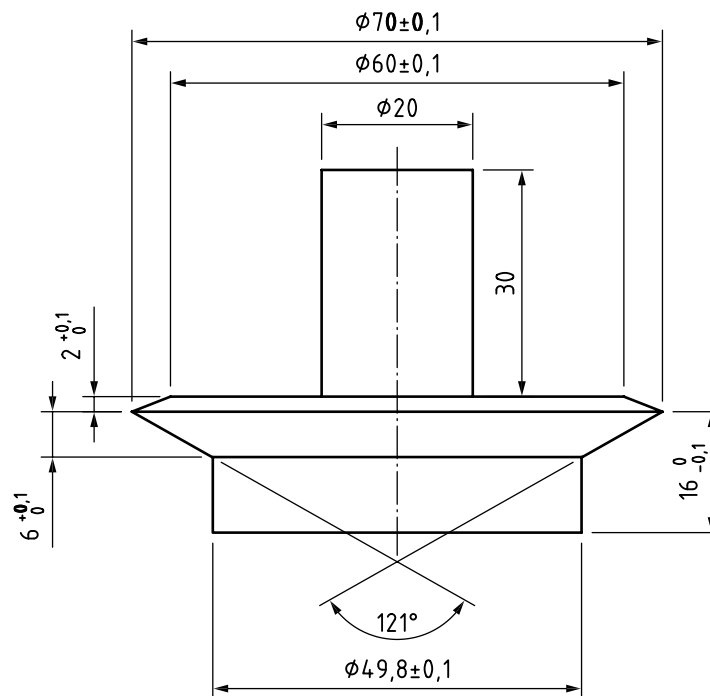

Figure A.1 — Control gauge $D_2 = 52$ mm
- Control gauges in accordance with Figures A.1 and A.2. Untoleranced dimensions are for reference only.